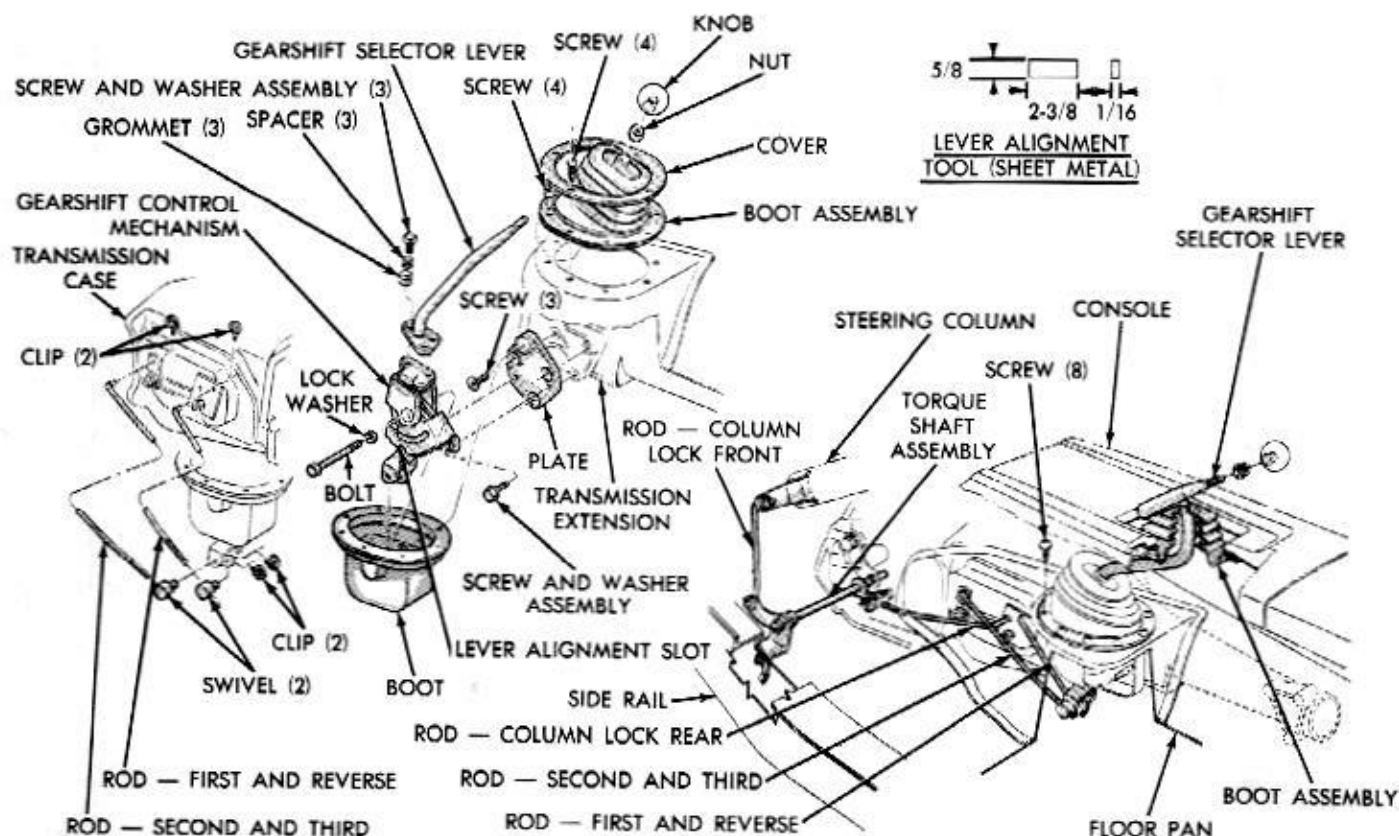

Fig. 45—Floor Shift—3 Speed
THREE SPEED FLOOR SHIFT MECHANISM (Fig. 45)
Installation and Adjustment (Fig. 45)
(1) Position shift mechanism on transmission extension housing mounting plate and secure with the three mounting bolts. (If equipped with lower boot, place boot on mechanism first and insert long mounting bolt through unit and boot before attaching to mounting plate).
(2) Fabricate a lever alignment tool from 1/16 inch thick sheet metal to dimensions shown in figure 45.
(3) Insert lever alignment tool into slots in levers and mechanism frame to hold levers in neutral crossover position.
(4) Place transmission levers in neutral (middle detent) position and adjust shift rod swivels so rods will install freely to levers.
(5) Secure rods with proper washers and clips and remove alignment tool. (If so equipped, work flange portion of lower boot up above floor pan opening).